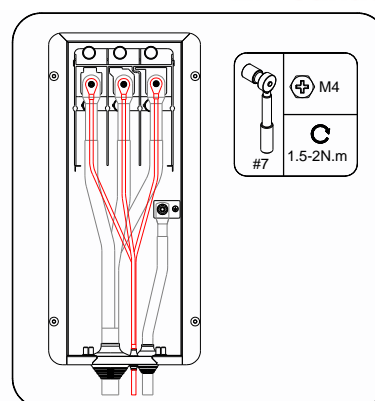

FIG 5-15 Tracking System Wiring
Step 5: Fix the cable L/N terminals to L3 and N phases on the AC terminal block, and connect the cable grounding wire to the internal grounding point of the machine, as shown in FIG 5-15.